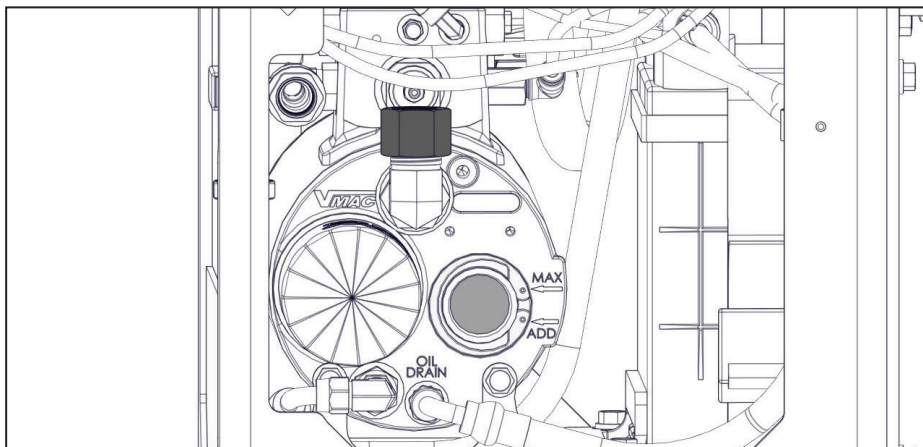

Figure 36 — Compressor oil fill
- ☐ Remove the filler cap on the WHASP Tank. Fill the WHASP Tank with VMAC compressor oil until it reaches the "MAX" mark. The air compressor system holds approximately 4 L (1 USG) of oil (Figure 36).